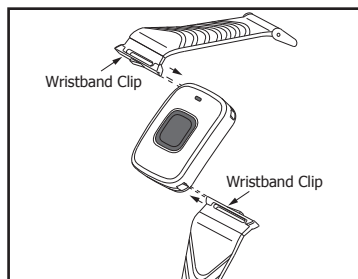

Figure 1: Wristband Mounting
The 1148 Personal Pendant provides the options to be used as a wristband or on a lanyard. The wristband or lanyard clips can only be inserted in one direction as shown in Figures 1 and 2. The wristband clips can be removed by pulling the clip in the opposite direction. Once inserted the lanyard clips cannot be removed.
1. Slide the wristband clip into the slots until fully seated. See Figure 1.